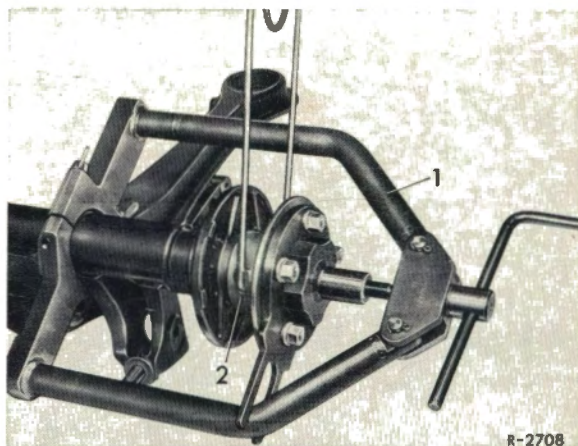

Fig. 35-3a/11
17. Attach the cover plate (50) to the axle tube by means of the fixing bolts (59) and screw the back plate (29) to the axle tube (Fig. 35-3a/3). For tightening torque see Job No. 35-0.